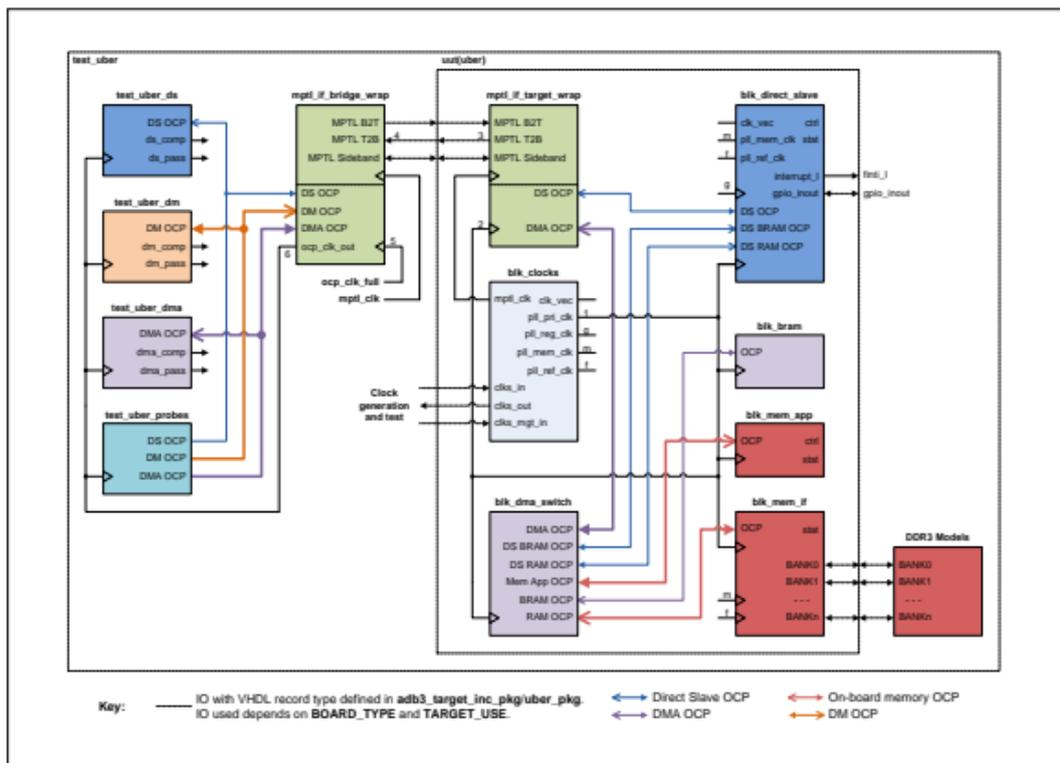

Figure 16: Uber Design Testbench And Top Level Block Diagram
The testbench for the **Uber** example FPGA design is implemented by `hdl/vhdl/examples/uber/common/test_uber.vhd`. Figure Figure 16 shows the testbench, with the top level of `uber` embedded in it.
- In OCP-only simulation (**TARGET\_USE = SIM\_OCP**), the UUT's main OCP clock (**pll\_pri\_clk** in this case) is routed out of the UUT via the `mptl_if_target_wrap` instance and into the testbench's instance of `mptl_if_bridge_wrap`. The `mptl_if_bridge_wrap` instance outputs this signal as **ocp\_clk**. This route is shown in Figure 16 as the route consisting of points 1, 2, 3, 4 and 6.